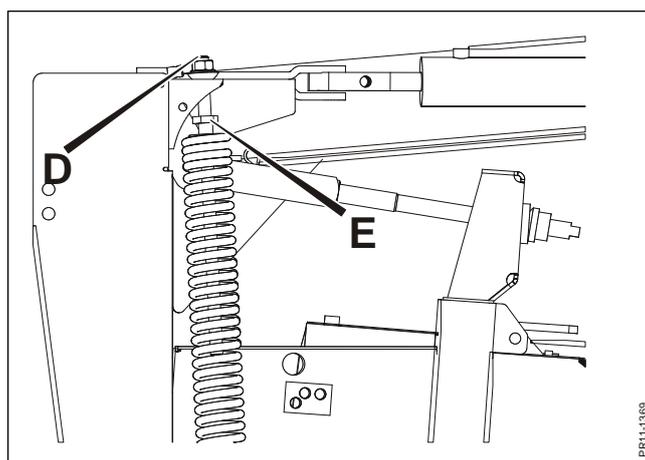

Fig. 3-7
- Fig. 3-7** 3) **The relief springs** are adjusted by means of the spindle **D**, until the cutterbar **extends suitable pressure on the ground.**
- Fig. 3-7** A counter nut **E** holds the adjustment.